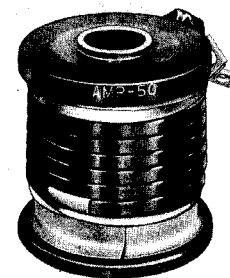

Figure 7. Identifying solenoid coils
7. Figure 7 illustrates the manner in which various sizes of solenoid coils are identified. A new coil data plate for mounting on the recloser sleet hood is included with each coil order.